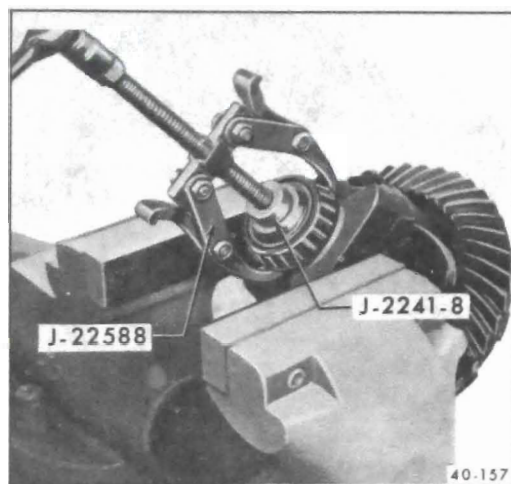

Figure 40-185 - Removing Differential Side Bearings
2. Position case in vise and remove side bearings using Remover J-22588 and Plug J-2241-8. See Figure 40-185.